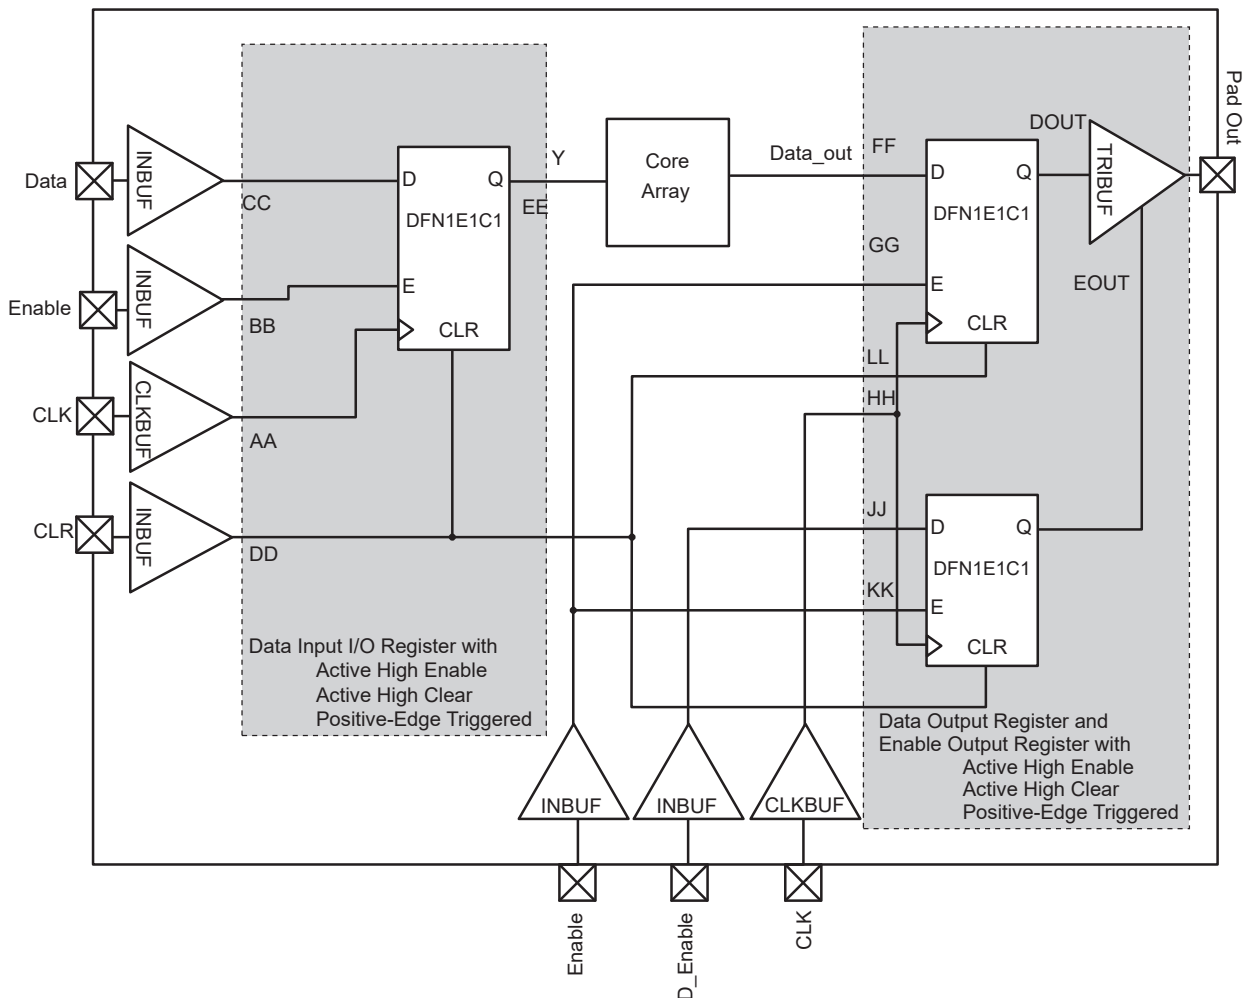

Figure 2-11 • Timing Model of the Registered I/O Buffers with Synchronous Enable and Asynchronous Clear
*Note:* \*See Figure 2-11 on page 2-40 for more information.